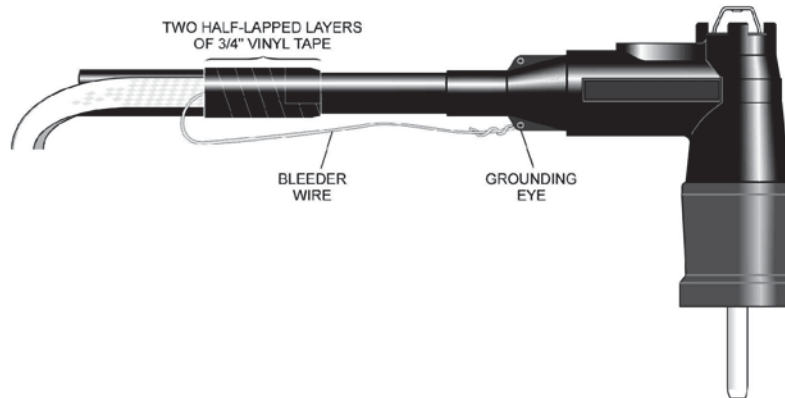

FIGURE 7
STEP 20: TIGHTLY WRAP TWO HALF-LAPPED LAYERS OF 3/4" VINYL TAPE IN THE **SAME** DIRECTION AS THE CONSTANT TENSION SPRING FROM THE **EDGE** OF THE LC SHIELD, ACROSS THE CONSTANT TENSION SPRING, AND DOWN THE CABLE JACKET TO THE POINT WHERE IT COVERS THE SOLDER CONNECTION OF THE DRAIN WIRE ON THE GROUND BRAID. SEE **FIGURE 7**.
STEP 21: LOOP THE DRAIN WIRE (SINGLE WIRE ATTACHED TO THE GROUNDING BRAID), OR ONE OF THE CONCENTRIC NEUTRAL STRANDS IF USING CONCENTRIC NEUTRAL CABLE, THROUGH THE GROUNDING EYE ON THE ELBOW AND WRAP LIGHTLY AS SHOWN IN **FIGURE 7**. BE CAREFUL NOT TO DAMAGE THE GROUNDING EYE. CUT OFF ANY EXCESS LENGTHS OF THE DRAIN WIRE ON THE GROUND BRAID AND USE THIS OR STOCKED DRAIN WIRE TO GROUND THE SURFACE OF THE BUSHING INSERT.